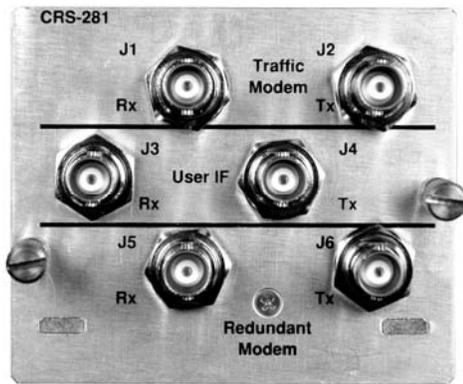

Figure 1-19. CRS-281 IF Switch Module:
- The CRS-281 (70/140 MHz IF) with Type ‘TNC’ (50Ω) connectors (**Figure 1-19**);